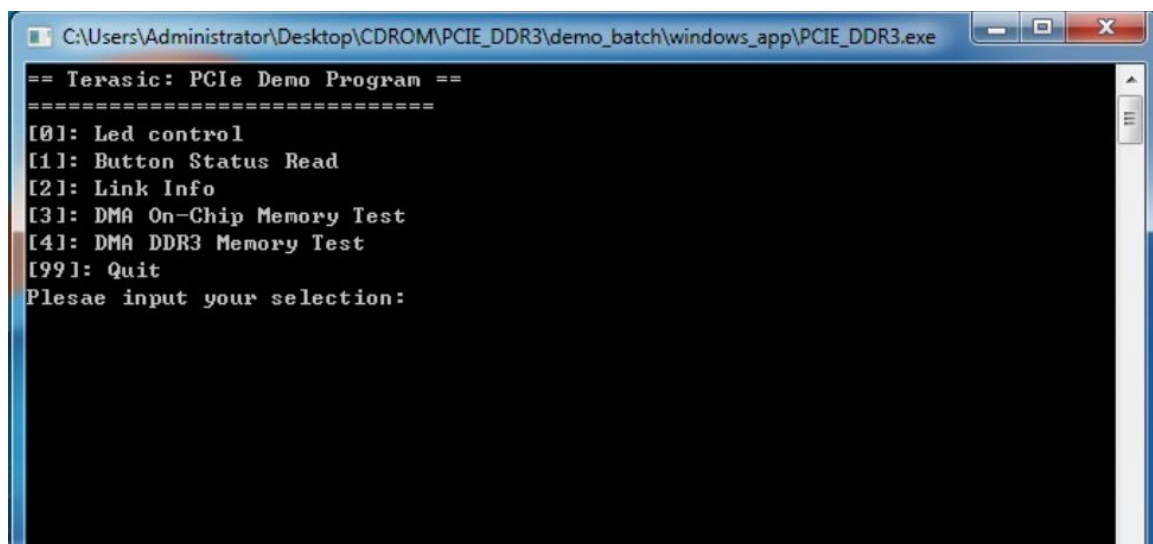

Figure 7-16 Screenshot of Program Menu
7. Go to windows_app folder, execute PCIE_DDR3.exe. A menu will appear as shown in **Figure 7-16**.